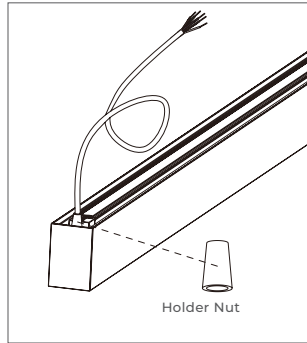

FIGURE 3-4
4) Secure the power cord with holder nut, remount LED modules and end cap. (Figure 3-4)